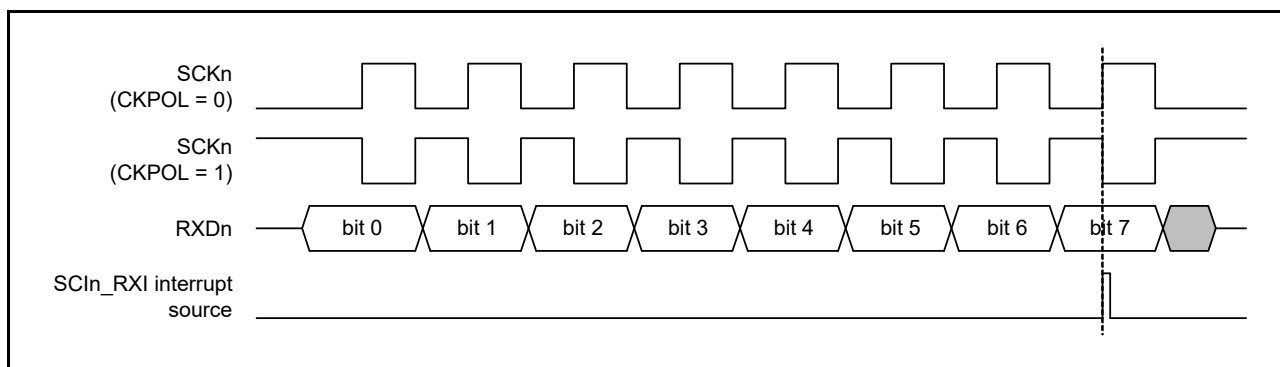

Figure 28.79 Timing of SCIn\_RXI interrupt in simple SPI mode with clock delay
- With clock delay (SPMR.CKPH bit is 1), the receive data full interrupt (SCIn\_RXI) is generated before the final clock edge on the SCKn pin, as indicated in Figure 28.79. If the TE and RE bits in the SCR become 0 before the final edge of the clock signal on the SCKn pin, the SCKn pin is placed in the high-impedance state, so the width of the last clock pulse of the transfer clock is shortened. In addition, an SCIn\_RXI interrupt might lead to the input signal on the SSn pin of a connected slave going to the high level before the final edge of the clock signal on the SCKn pin, leading to incorrect operation of the slave.